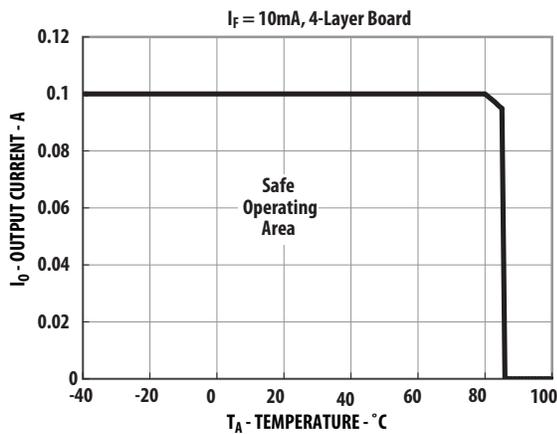

Figure 1. Maximum Output Current Rating vs Ambient Temperature (ASSR-4118-003E)
- For derating, refer to Figure 1, 2, 3 and 4.
Figure 1, 2, 3 and 4 specify the maximum average output current allowable for a given ambient temperature. The maximum allowable output current and power dissipation are related by the expression $R_{ss} = P_o(\text{max}) / (I_o(\text{max}))^2$ from which R_{ss} can be calculated. Staying within the safe area assures that the steady state MOS-FET junction temperature remains less than 125°C .